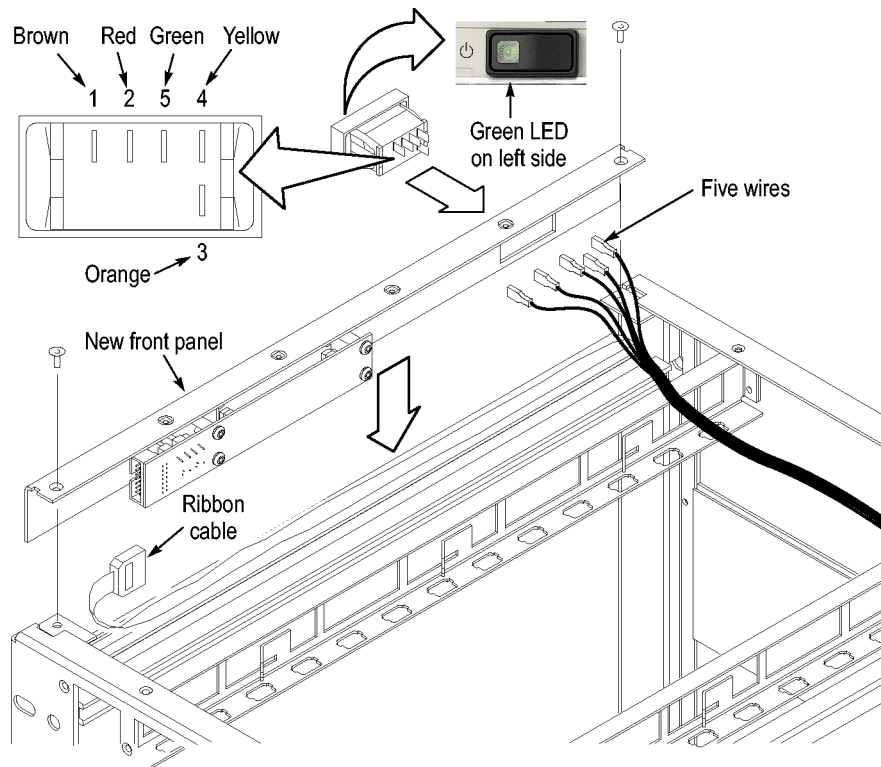

Figure 11: Installing the new front panel
1. Orient the power switch to the new front panel so that the four terminals are on top, and the green LED is toward the front-left side. (See Figure 11.)
3. Connect the wires to the power switch as shown. (See Figure 11.)